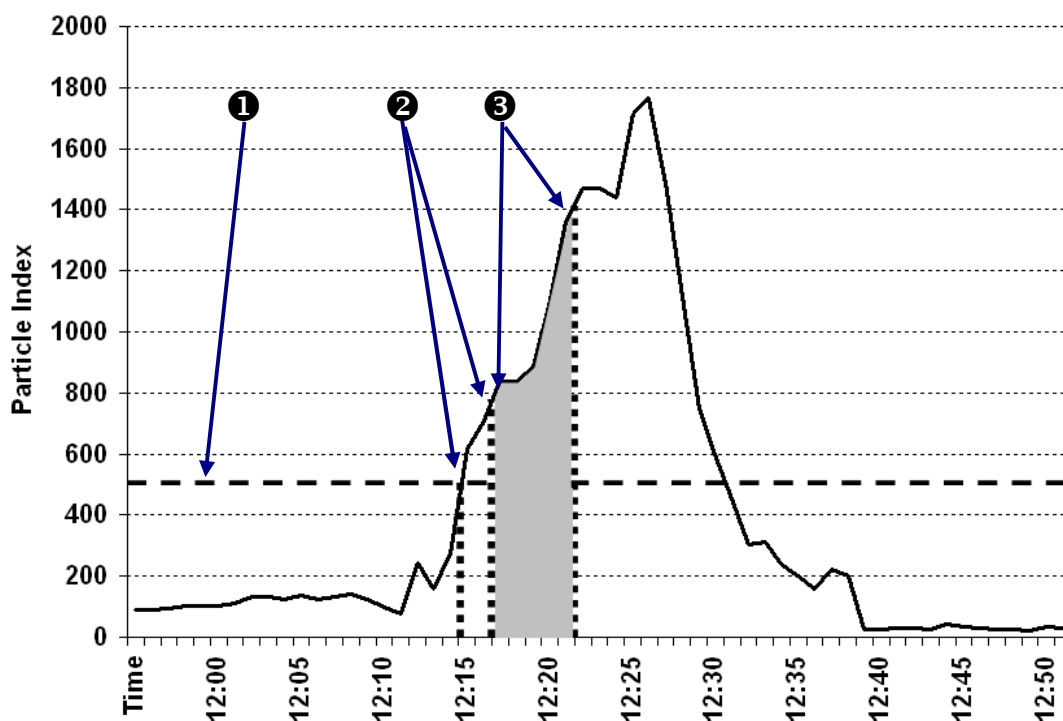

Figure 2 Automatic Sample Collection Operating Principle
The PM2500 has an **optional** feature for Automatic Sample Collection. This feature allows the user to establish a particle index threshold at which a sample would be taken if the reading were to cross the threshold. As seen in Figure 2 below, a **Threshold** (❶) is established by the user. The threshold can be any number between 0 and 9999. The user will then establish a **Delta Time** setting (❷) which establishes how long the reading has to remain above that threshold before sample collection would begin. If the reading remains above the threshold value for the full Delta Time period, the sample valve will activate and start filling a sample bottle. The sample valve will remain on for however many seconds the **Sample Time** (❸) is set for.